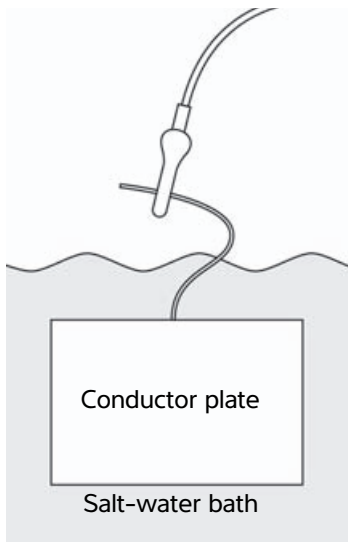

Figure 5-6 Conductor plate attachment
- a Connect the black lead to the conductor plate in the salt-water bath as shown in Figure 5-6.